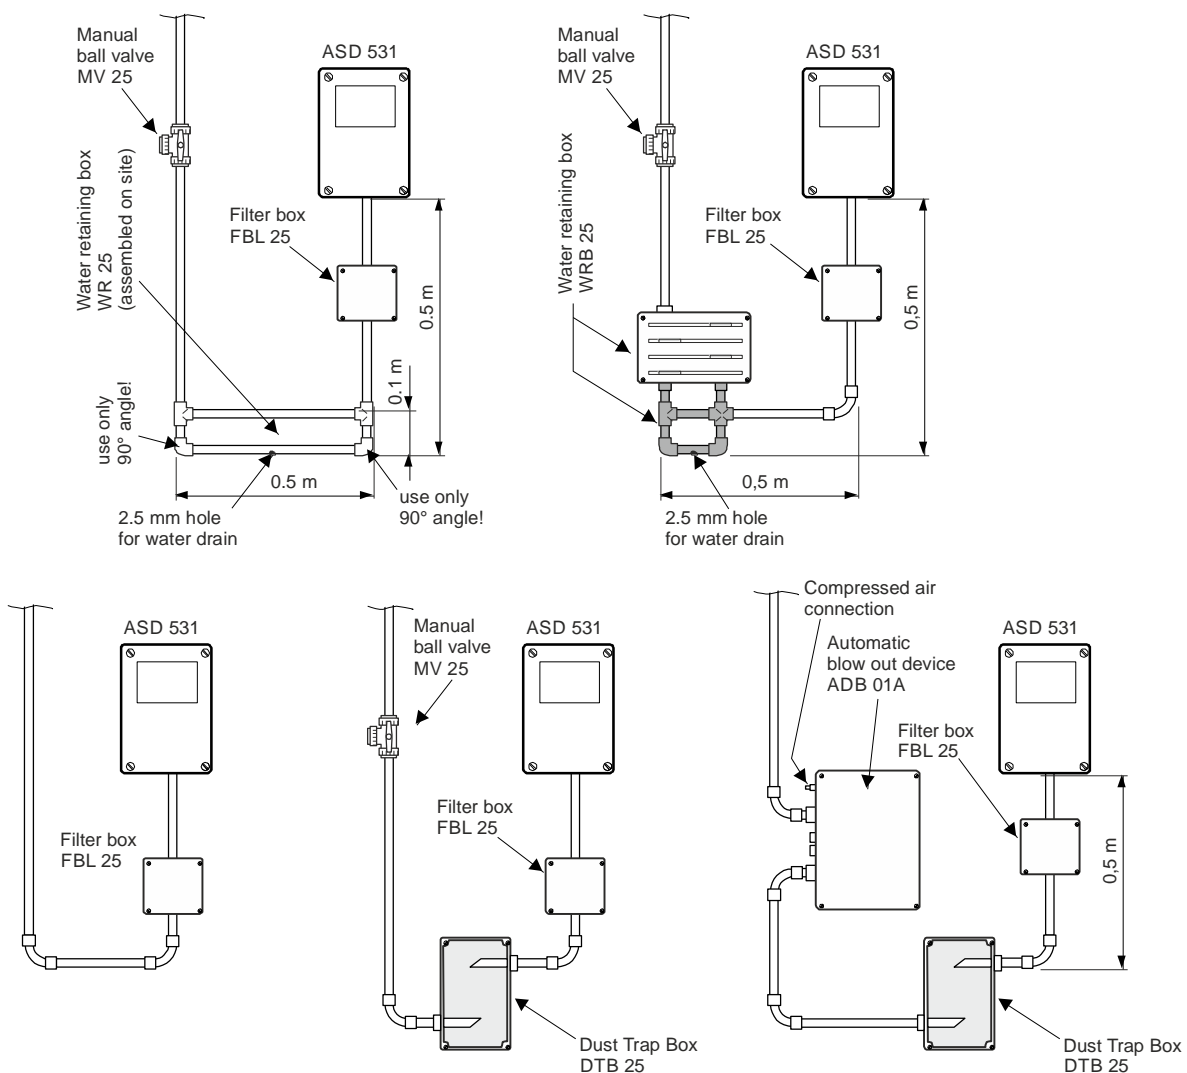

Fig. 43 Mounting accessory parts
- The mounting positions for the water retaining box, dirt trap box and dust retaining box must be observed as indicated in Fig. 43.